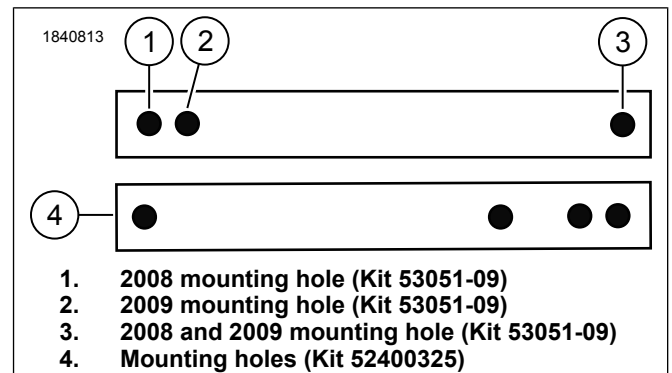

Figure 6. Grab Strap
1. See Figure 6. Install grab strap (2) onto studs.
- a. Secure grab strap to studs (F) with nuts (E). Tighten.
- a. See Figure 6. Use grab strap mounting holes.